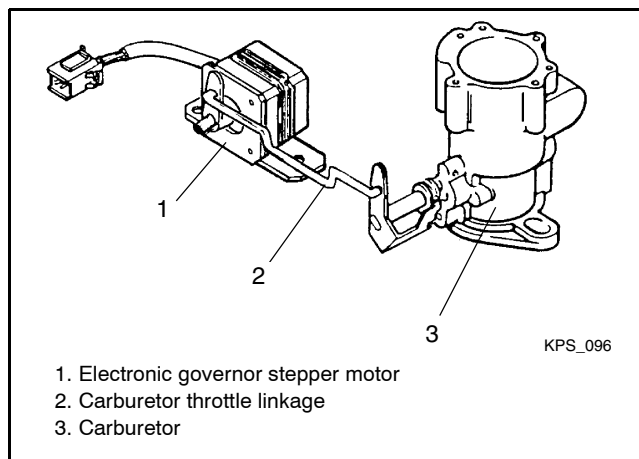

Figure 5-13 Stepper Motor and Carburetor
3. Hold the throttle linkage steady while the engine is running. See Figure 5-13. If the engine runs at a steady speed with no hunting or surging when the throttle is held steady, then the hunting/surging problems during operation may be caused by the governor. Proceed to Section 5.6.4.
1. Verify that the carburetor throttle linkage is connected to the stepper motor as shown in Figure 5-13.